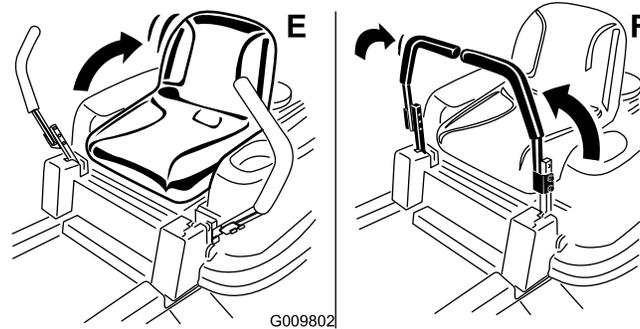

Figure 4
- E. Lower the seat into the operating position (Figure 4).
- F. Move the control levers back to the center position (neutral) as shown in Figure 4.